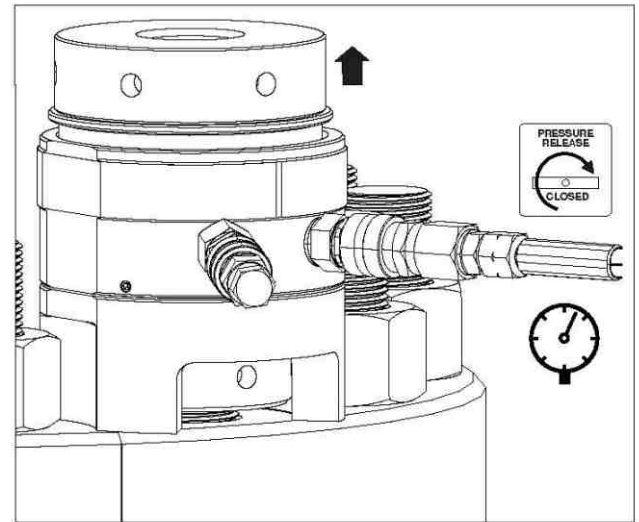

Figure 4.2-1 Pressurizing the Tensioner
- 4.2.6 When the calculated hydraulic pressure is reached, stop the pump. Recheck the oil pressure gauge after pump has stopped. Be sure the pressure is stable. Threads may be visible between the nut and the joint surface at each tensioner. See Figure 4.2-1.
- 4.3.7 When the "first pass" pressure "A" is reached, stop the pump. Recheck the oil pressure gauge after pump has stopped. Be sure the pressure remains stable. Threads may be visible between the nut and the joint surface at each tensioner. See Figure 4.2-1.
4.3.18 When the "second pass" pressure "B" is reached ,stop the pump. Recheck the oil pressure gauge after pump has stopped. Be sure the pressure remains stable. Threads may be visible between the nut and the joint surface at each tensioner. See Figure 4.2-1.